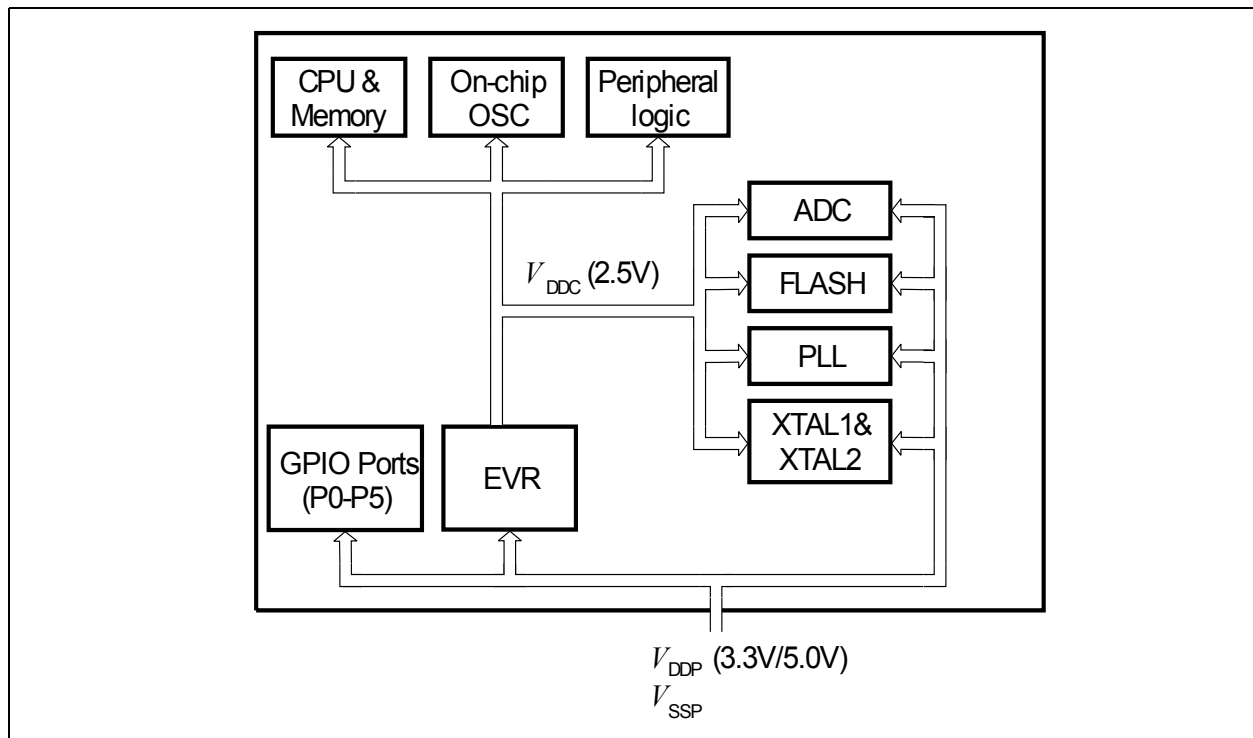

**Figure 21** XC886/888 Power Supply System
**Figure 21** shows the XC886/888 power supply system. A power supply of 3.3 V or 5.0 V must be provided from the external power supply pin. The 2.5 V power supply for the logic is generated by the EVR. The EVR helps to reduce the power consumption of the whole chip and the complexity of the application board design.